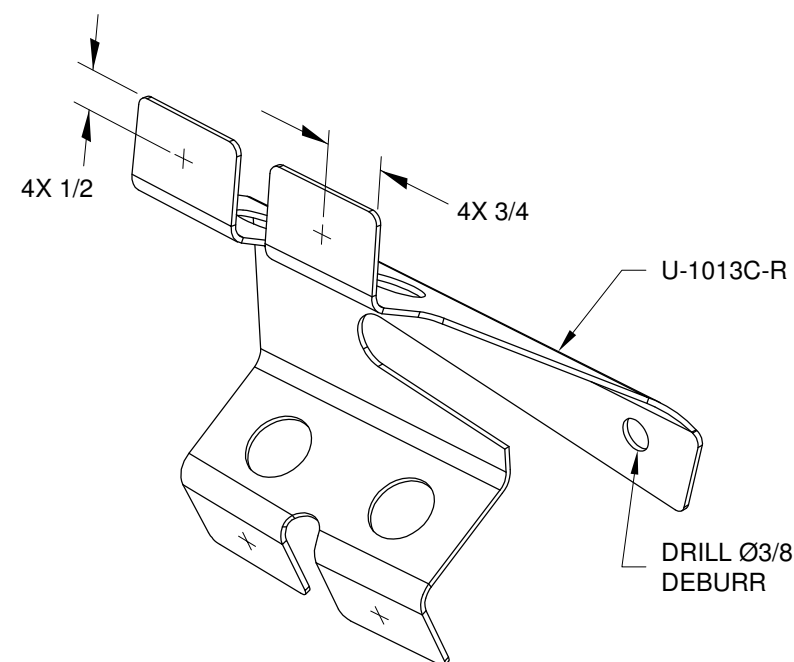

FIGURE 1: MARKING SCREW LOCATIONS
Step 1: Mark screw locations on the U-1013C-L and -R Nose Wheel - Fairing Bracket flanges as per Figure 1. The marks will be visible through the wheel fairing. Drill and deburr the forward attach hole as per the callout.